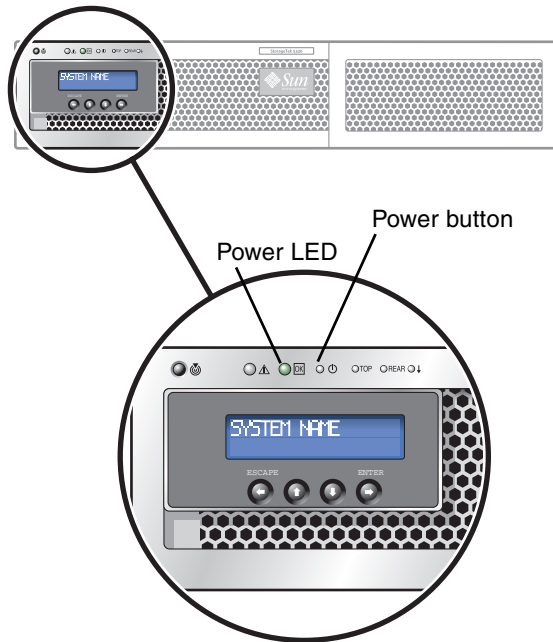

FIGURE 5-43 Power Button and Front Panel Detail
4. Using a pen tip or similar implement, press the recessed Power button (FIGURE 5-43).